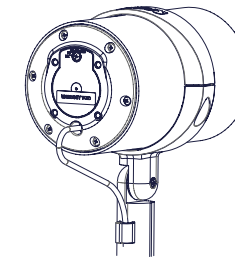

Figure 10
6. Thread the pigtail connecting wire through the wire guide on the clamp assembly shaft as illustrated in Figure 10.